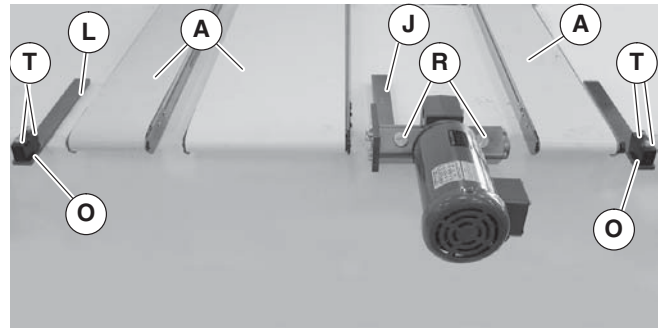

Figure 20
- Remove screws (Figure 20, item T) and remove bearing blocks (O).
- Remove four (4) inspection plugs (Figure 20, item R).